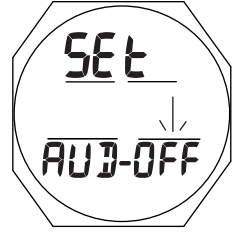

Fig. 40 - SET AUDIBLE ALARM
**Set Audible Alarm**, information includes (Fig. 40):